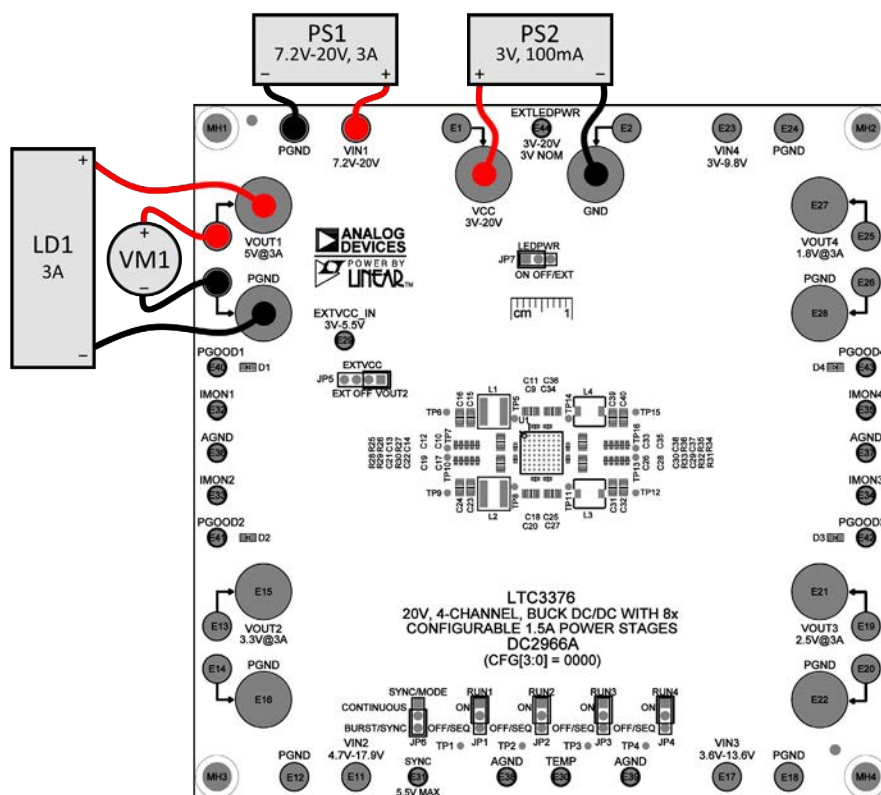

Figure 1. Quick Start Setup for the DC2966A Demo Circuit
2. Choose one of the four channels to test and connect test equipment to that channel based on Figure 1. Figure 1 is configured to test channel 1 but moving the lab equipment respectively to other outputs (or all outputs) allows those to be tested instead.